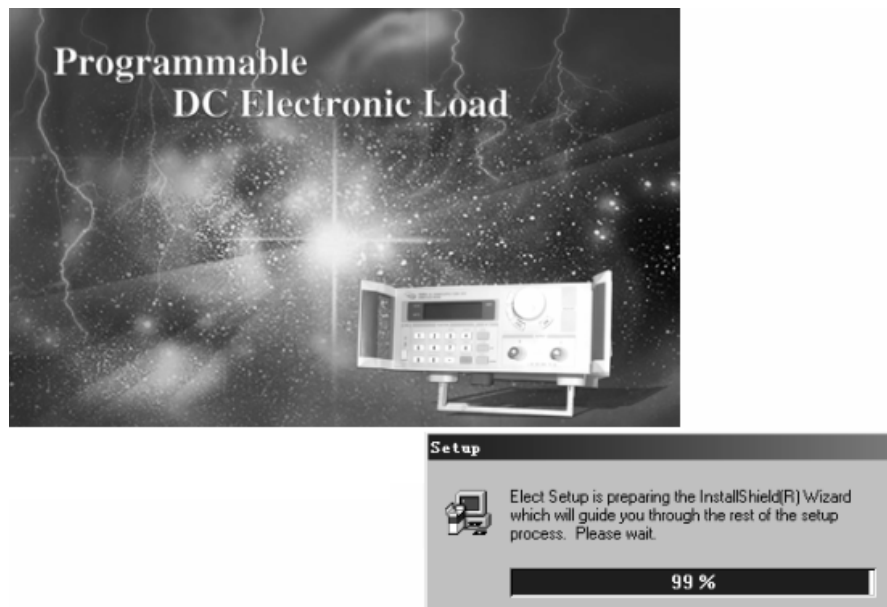

Fig.1-2 The Initialization of the Installation
1.2.1 Insert the ATTEN software CD into the CD-ROM drive, double-click My Computer => ATTEN CD => Eload => Setup.exe to start the installation, the Fig. 1-2 will be displayed.